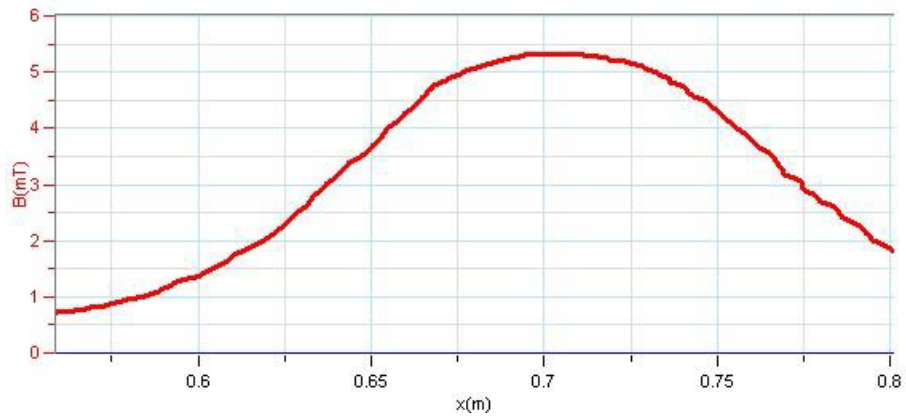

Figure 4
1. Reduce the distance between the coils by a centimeter or two and repeat the experiment. Discuss the uniformity of the magnetic field in this case (see Figure 4).